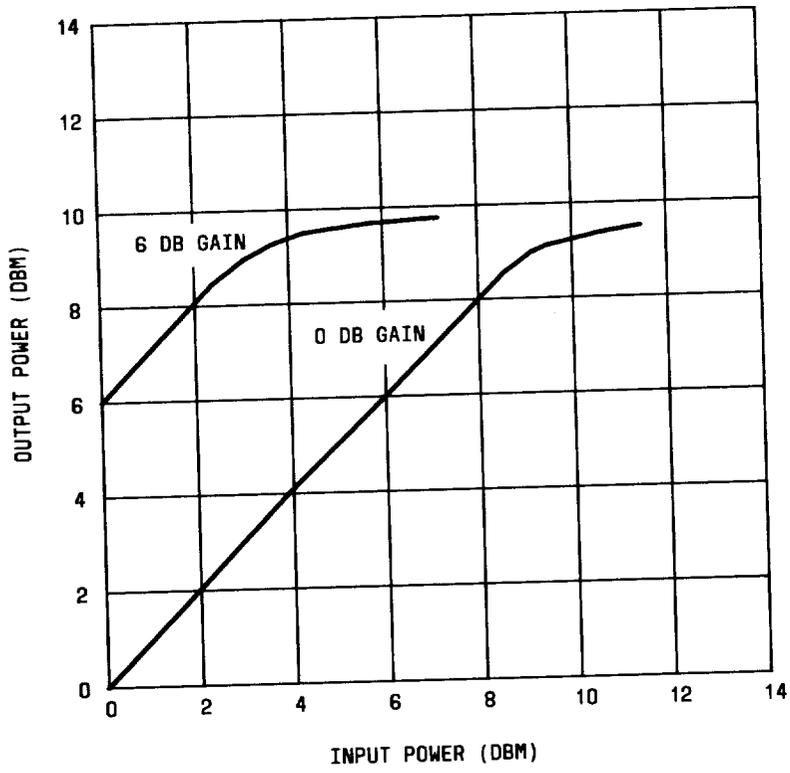

Fig. 6—Output Power Characteristics Curve
3.04 Figure 6 shows the output power capability of the J99343PR UAA repeater. The output power is determined by input power and repeater gain, as shown by the +6 dB gain line in the figure. Power limiting occurs in this unit at about 9 dBm.